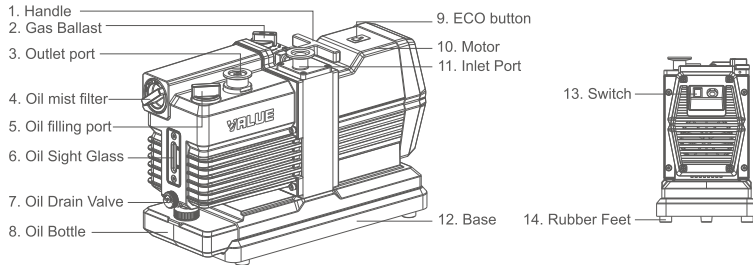
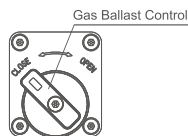

Fig. 1
Fig. 6
Remove Oil Filling Port (No. 5 in Fig. 1) and fill oil into the pump. The first oil filling shall reach 80 - 90% below MAX position. Remove Oil Drain Valve (No. 7 in Fig. 1) to discharge the excess oil above MAX position.
Close the gas ballast (No. 2 in Fig. 1) to pump non-condensable gases (Gas ballast position refer to Fig. 6).
2.1). If the vacuum system contains a small amount of condensable gas, open gas ballast (Move gas ballast to open position refer to Fig. 6) to displace the vapor.